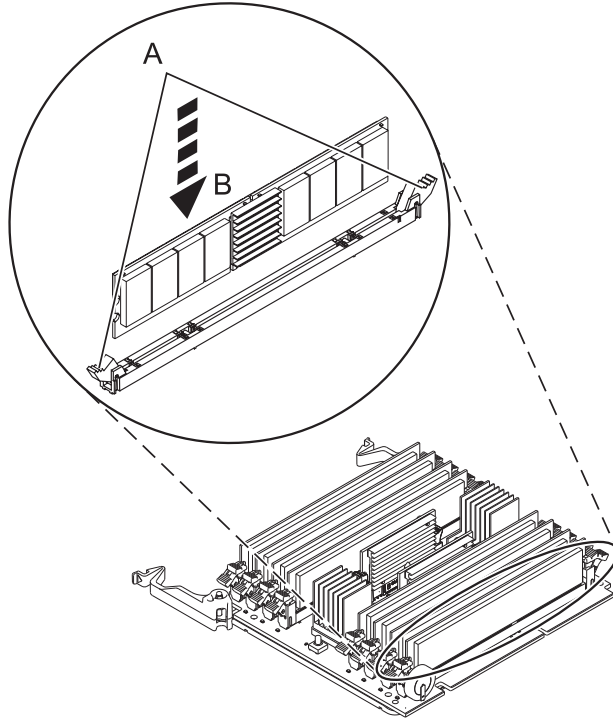

Figure 22. Replacing a memory module
10. Ensure that the connector locking tabs **(A)** are pushed open into the unlocked position, as shown in Figure 22 on page 28, before installing a new memory module.